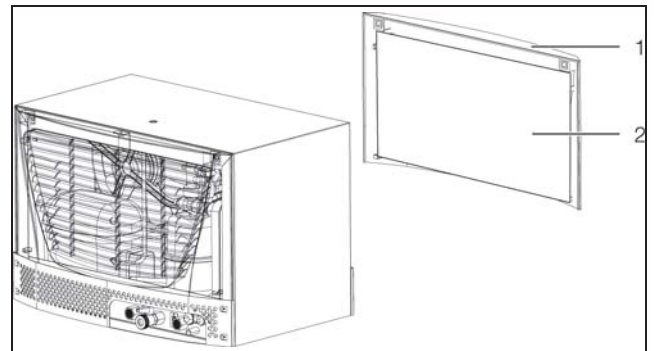

Fig. 48: Installing the filter mat (3318.600, 3318.610 and 3319.600, 3319.610)
- Pull the louvred grille (fig. 48, item 1) on the front of the chiller (air inlet) off of the housing.
- Insert the filter mat (fig. 48, item 2) (Model No. 3286.510) into the louvred grille and push it back onto the housing.